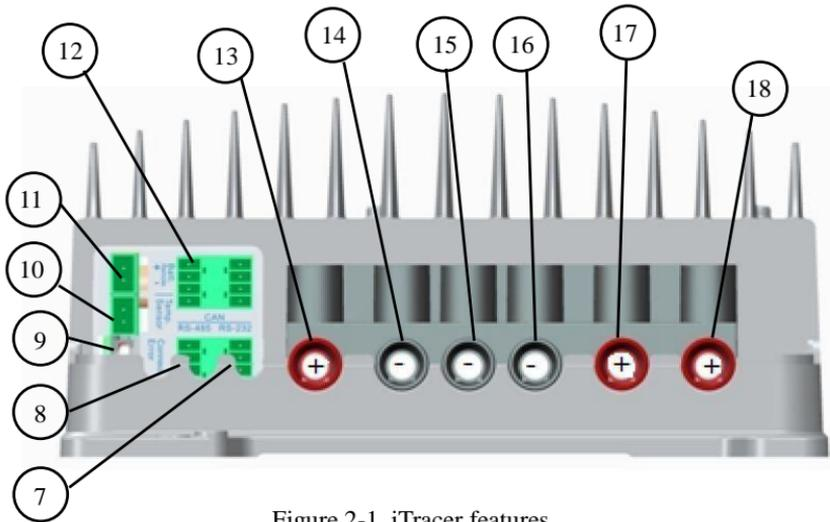

Figure 2-1. iTracer features
The included remote temperature sensor RTS300R10K5.08A is recommended for effective temperature compensated charging. Connect the RTS300R10K5.08A to the 10th port (MC1.5-5.08-2L) on the controller (see figure 2-1). The cable standard length is 3 meters and could be customized. There is no polarity, so either wire (+ or -)
**NOTE:** When connecting Remote Battery Voltage Sensor, please pay attention to ‘+’ and ‘-’ (see figure 2-1).
The voltage sensor wires should be cut into the length as required. The wire size can range from 0.25 to 1.0 mm2 (24 to 16 AWG). Maximum length is 3m. Connect the remote battery voltage sensor wires to the 11th port (MC1.5-5.08-2L) on the controller (see figure 2-1). A twin-cord cable is recommended but not required.